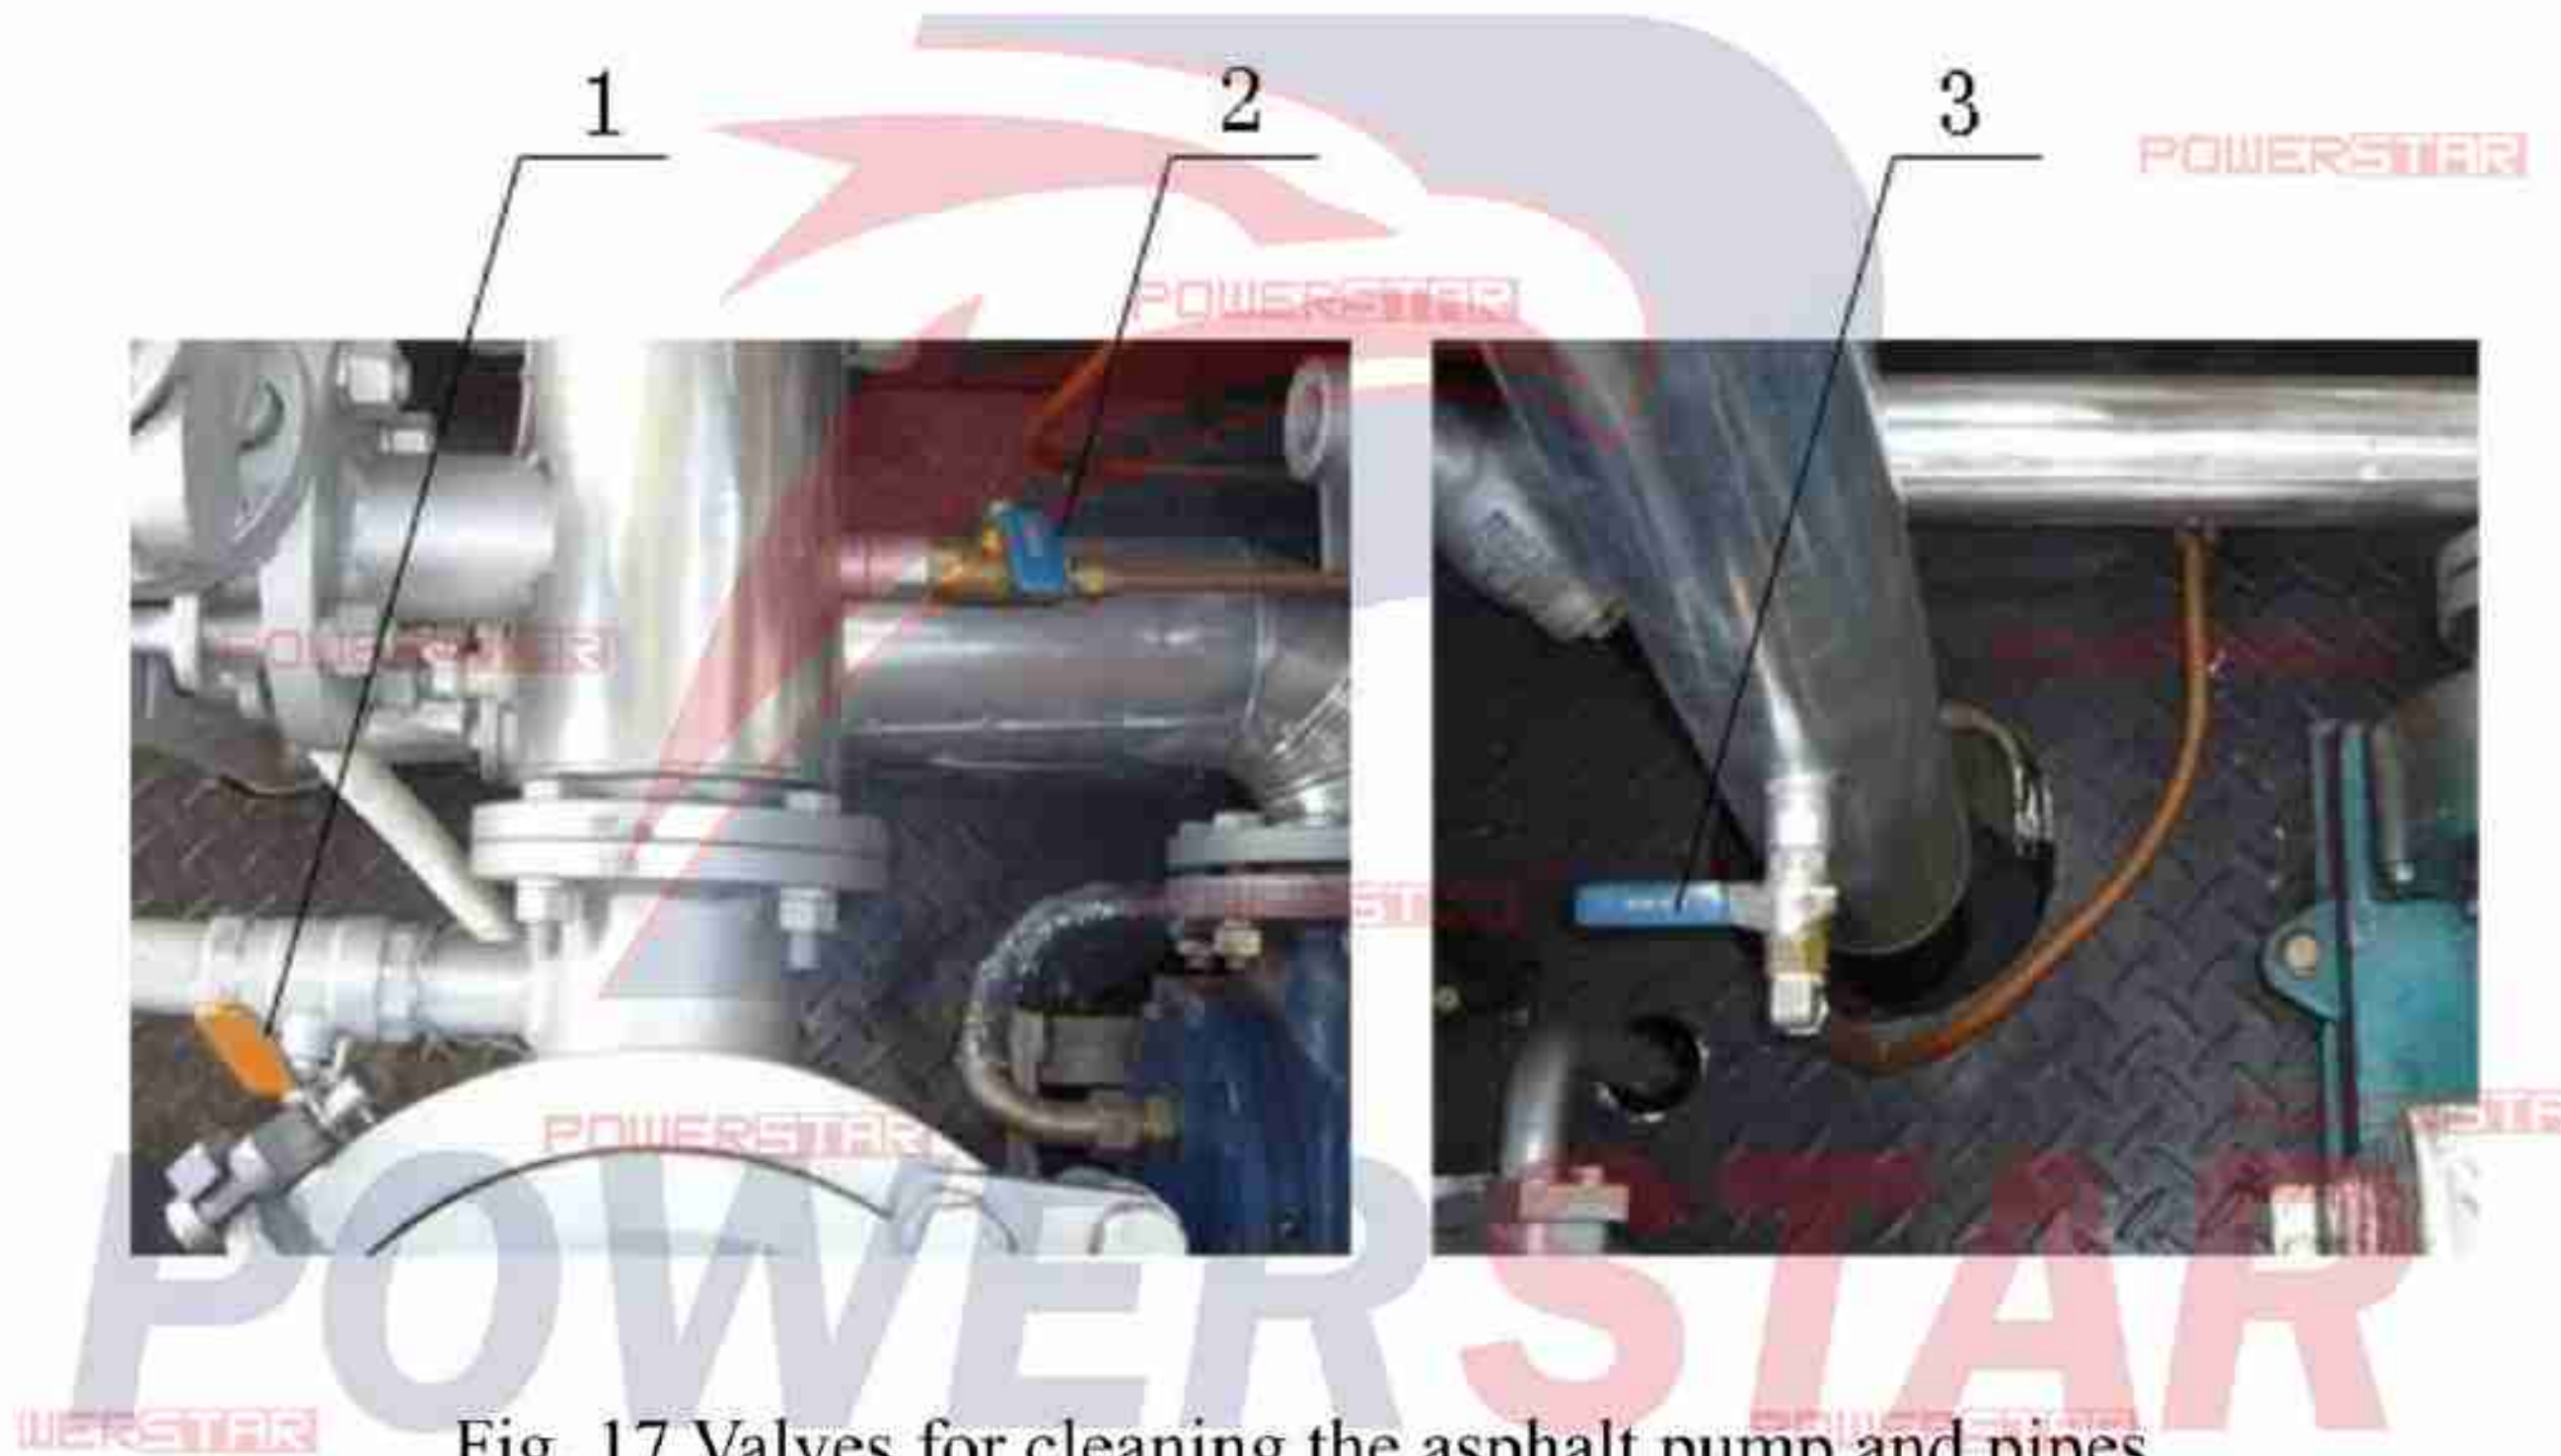

Fig. 17 Valves for cleaning the asphalt pump and pipes
1. Close the oil inlet valve (No. 1) (as shown Fig. 8), and open the manual oil return valve (No. 7). Turn the "Control Selection" switch on the rear console (as shown in Fig. 14, rear) to the "Rear Console" position, the "Asphalt Control Valve" to the "Manual Spraying" position. Turn on the "Asphalt Pump" switch. Open the **main pipe air valve** (as shown in Fig. 17), turn the "Asphalt Control Valve" to the "Blow Nozzle", and close the manual oil return valve (No. 7). In this case, the asphalt inside the pipes will be blown into the tank.
2. Close the main pipe air valve (see Figure 17) first, open the diesel inlet copper ball valve, and keep the "Asphalt Control Valve" at "Blow Nozzle" position. Open the "Main Nozzle" switch and the individual nozzle switches. Run the asphalt pump for 2 to 3 minutes to suck diesel into the asphalt pump, then shut off all switches and diesel inlet copper ball valve. The cleaning of the asphalt pump is completed.
3. Automatic nozzle cleaning: turn on the "Nozzle Cleaning" switch on the rear console (as shown in Fig. 14, rear) (the main power should be turned off, then turned on). Open **oil return pipe air valve** (as shown in Fig. 17), and start automatic nozzle cleaning which can be conducted twice.
1. Close the oil inlet valve (No. 1) (as shown in Fig. 8), open the manual oil return valve (No. 7), and turn on the "Asphalt Pump" switch. Open the **main pipe air valve** (as shown in Fig. 17) to purge the asphalt remained in the pipe into the tank.
2. Close the **main pipe air valve**, open the diesel inlet copper ball valves (as shown in Fig. 17), and run the asphalt pump at low speed for 2 to 3 minutes. Cleaning of the asphalt pump is finished.
3. Close the diesel inlet copper ball valve and the manual oil return valve (No. 7), and open the **handheld spray bar air valve** (as shown in Fig. 17). Purge out the asphalt remained in the handheld spray hose, handheld spray bar and nozzles.